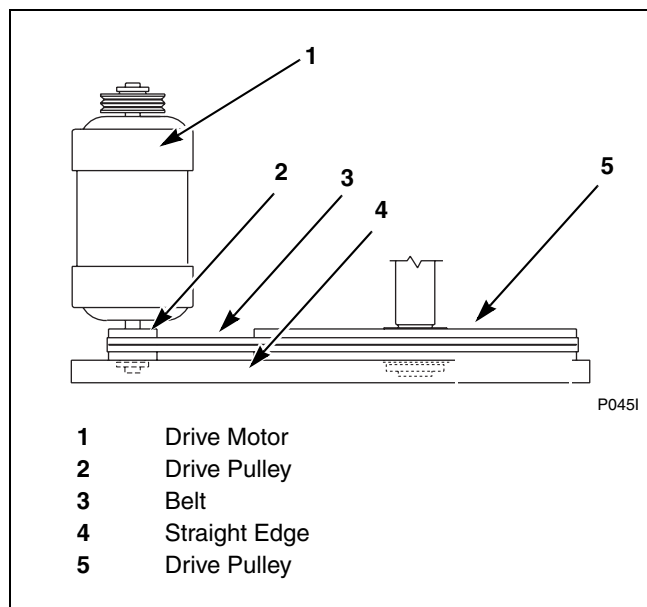

Figure 4
3. Verify V-belts are properly aligned by checking pulley alignment. Place a straight edge across both pulley faces. The straight edge should make contact with pulleys in two places. Refer to *Figure 4*.